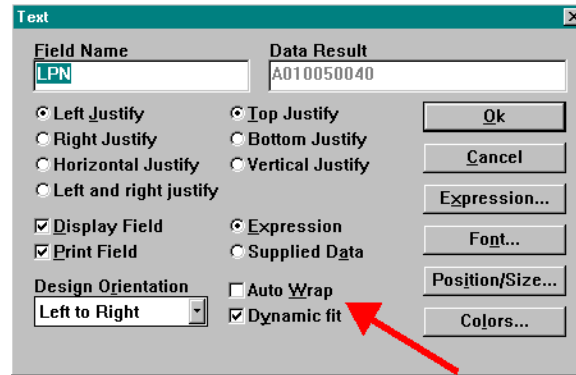

Figure 1
3. Open each label format and review the properties of each Text Field. Legi version 2 had the option to use *both* Auto Wrap **AND** Dynamic Fit. In newer versions, these options are mutually exclusive. If you find that one of your Text Fields has both of these options checked, turn off Auto Wrap and save the label. You will tweak that field later in the new version. (Figure 1)